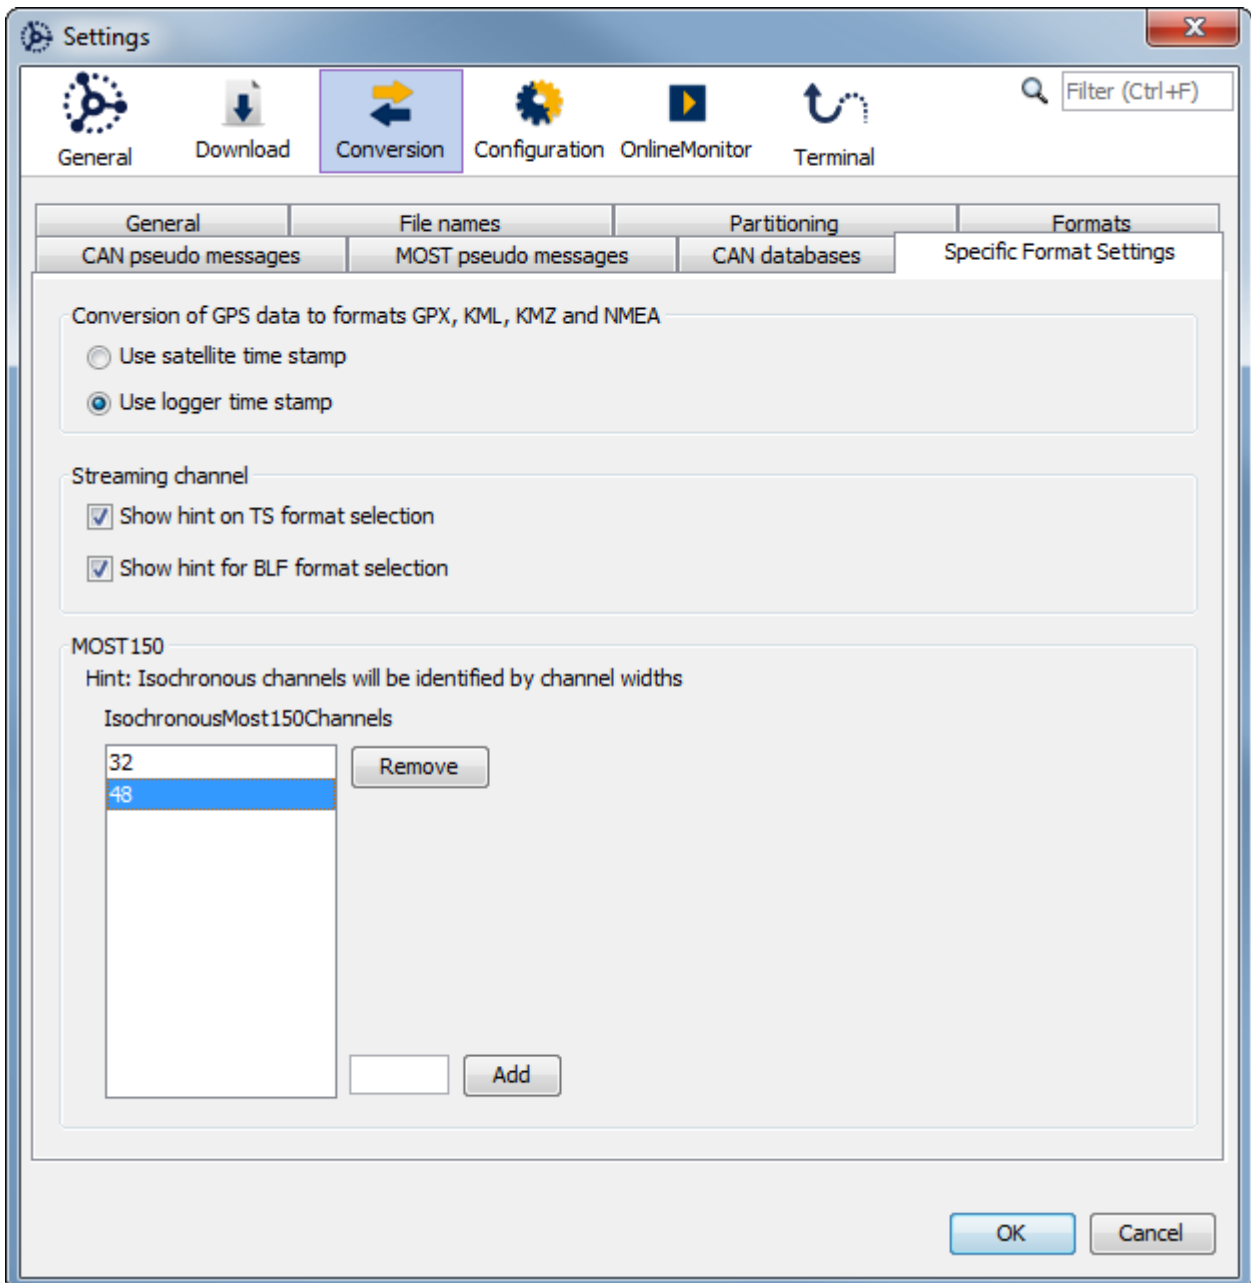

Figure 5: Setting the channel width
- Figure 5: Setting the channel width 13